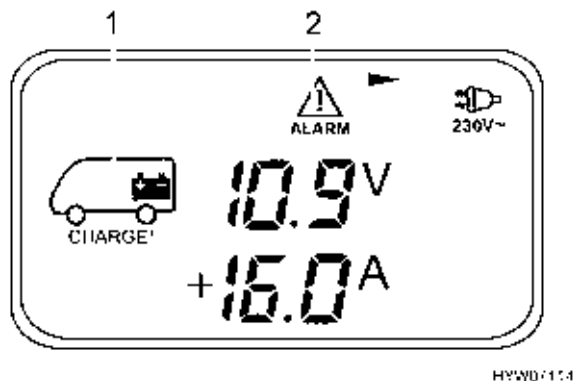

Fig. 111 Battery-menu (living area battery)
- Press key (Fig. 108,2): the battery-menu (Fig. 111) appears.
- Voltage (V), charging current (+A) and discharging current (-A) of the living area battery (Fig. 111,1)
- Voltage (V) of the starter battery (menu page 2)
The battery-menu appears and the symbols (Fig. 111,1 and 2) flash as soon as the voltage of the living area battery falls below 11 V (measured under operation) and there is the threat of a total discharge. Additionally, the voltage indicator flashes.